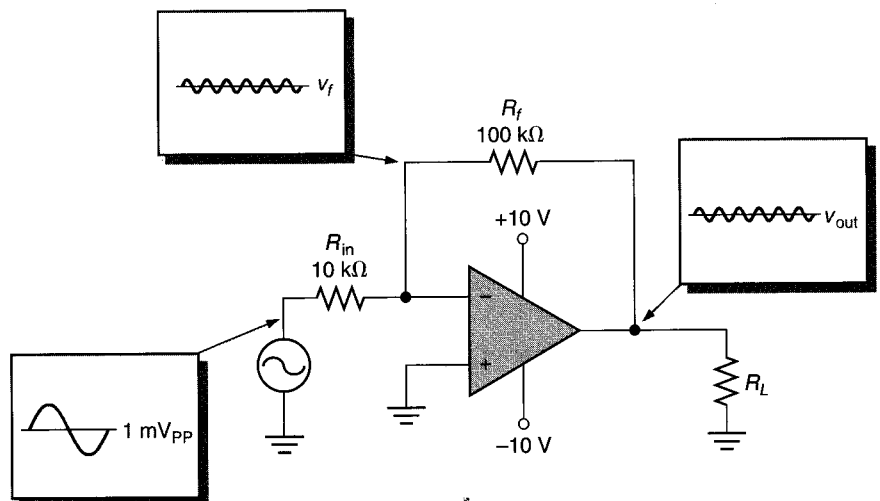

FIGURE 15.70
44. The circuit shown in Figure 15.70 has the waveforms shown. Determine the cause of the problem. (*Hint: The measured value of  $R_f$  is exactly as shown; that is,  $R_f$  is not the problem.*)